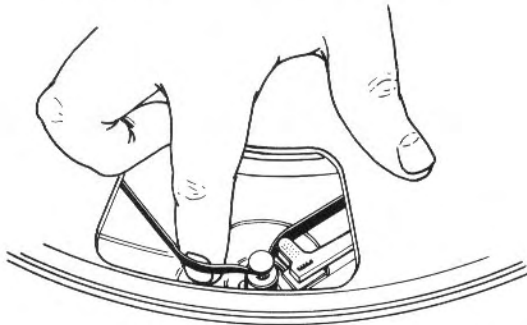

Figure 4
2. Put the Turntable on the Player Assembly Body. Loop the Belt around the Capstan and the Drive Rim, making sure that the Belt passes through the center of the belt guide. Make sure the Belt will be on the narrowest part of the Capstan when the Speed Selector Switch is on 33 1/3 r.p.m., and on the wide part when 45 r.p.m. See Figure 4 for looping the Belt.